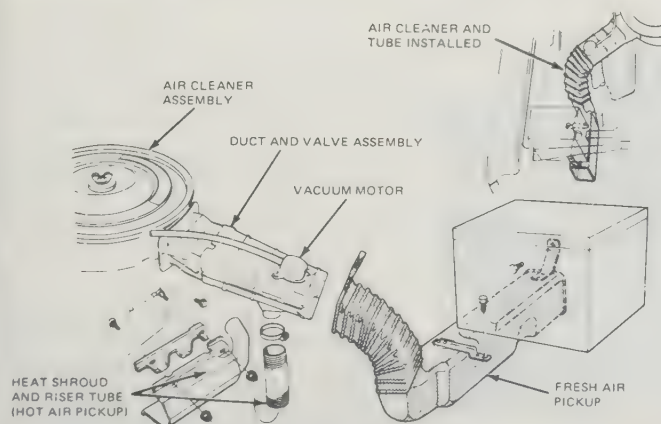

Fig. 3.1. Aircleaner and duct system - typical (Sec. 3)
- 2 An additional feature is the control system for intake air to ensure that fuel atomisation within the carburetor takes place using air at the correct temperature. This is effected by a duct system which draws in fresh air, or pre-heated air from a heat shroud around the engine exhaust manifold. The component parts of a typical system are shown in Fig. 3.1.